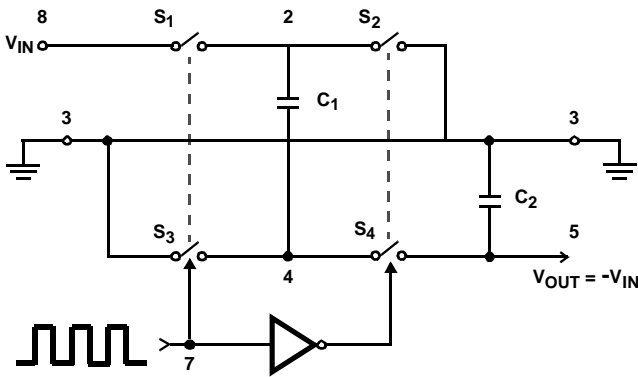
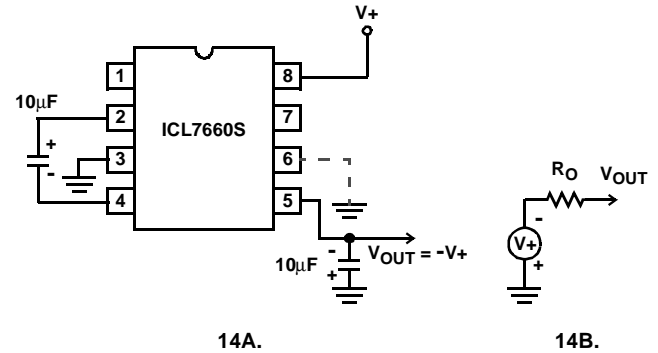
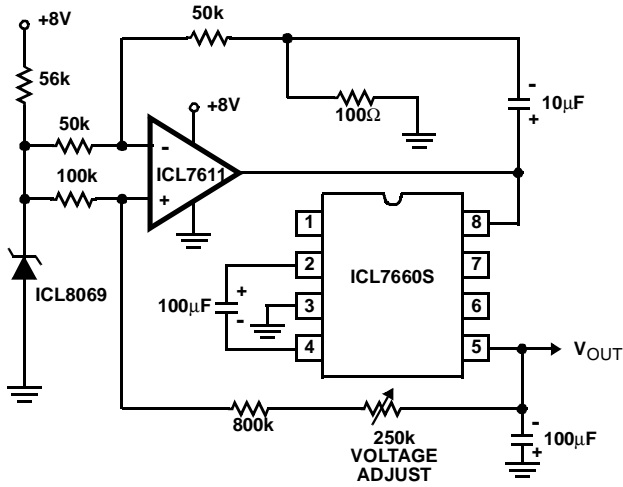
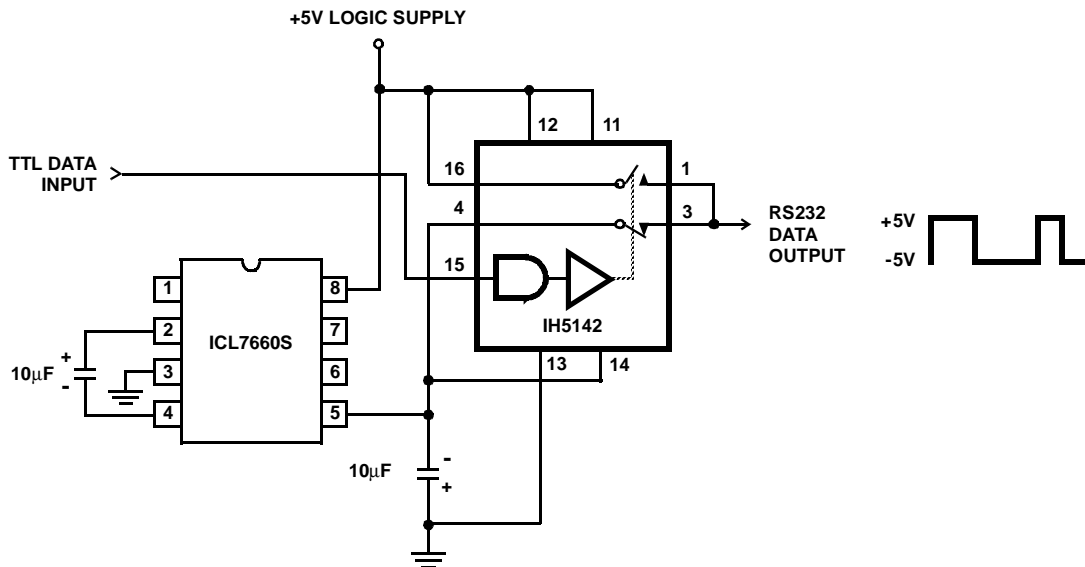

FIGURE 13. IDEALIZED NEGATIVE VOLTAGE CONVERTER
FIGURE 14. SIMPLE NEGATIVE CONVERTER AND ITS OUTPUT EQUIVALENT
FIGURE 20. REGULATING THE OUTPUT VOLTAGE
FIGURE 21. RS232 LEVELS FROM A SINGLE 5V SUPPLY
The ICL7660S contains all the necessary circuitry to complete a negative voltage converter, with the exception of 2 external capacitors which may be inexpensive 10 $\mu$ F polarized electrolytic types. The mode of operation of the device may be best understood by considering Figure 13, which shows an idealized negative voltage converter.
In the ICL7660S, the 4 switches of Figure 13 are MOS power switches;  $S_1$  is a P-Channel devices and  $S_2$ ,  $S_3$  and  $S_4$  are N-Channel devices. The main difficulty with this approach is that in integrating the switches, the substrates of
where  $V_1$  and  $V_2$  are the voltages on  $C_1$  during the pump and transfer cycles. If the impedances of  $C_1$  and  $C_2$  are relatively high at the pump frequency (refer to Figure 13) compared to the value of  $R_L$ , there will be substantial difference in the voltages  $V_1$  and  $V_2$ . Therefore it is not only desirable to make  $C_2$  as large as possible to eliminate output voltage ripple, but also to employ a correspondingly large value for  $C_1$  in order to achieve maximum efficiency of operation.
The majority of applications will undoubtedly utilize the ICL7660S for generation of negative supply voltages. Figure 14 shows typical connections to provide a negative supply where a positive supply of +1.5V to +12V is available. Keep in mind that pin 6 (LV) is tied to the supply negative (GND) for supply voltage below 3.5V.
The output characteristics of the circuit in Figure 14 can be approximated by an ideal voltage source in series with a resistance as shown in Figure 14B. The voltage source has a value of  $-(V^+)$ . The output impedance ( $R_O$ ) is a function of the ON resistance of the internal MOS switches (shown in Figure 13), the switching frequency, the value of  $C_1$  and  $C_2$ , and the ESR (equivalent series resistance) of  $C_1$  and  $C_2$ . A good first order approximation for  $R_O$  is:
The ICL7660S may be employed to achieve positive voltage doubling using the circuit shown in Figure 20. In this application, the pump inverter switches of the ICL7660S are used to charge  $C_1$  to a voltage level of  $V+ - V_F$  (where  $V+$  is the supply voltage and  $V_F$  is the forward voltage on  $C_1$  plus the supply voltage ( $V+$ ) is applied through diode  $D_2$  to capacitor  $C_2$ . The voltage thus created on  $C_2$  becomes  $(2V+) - (2V_F)$  or twice the supply voltage minus the combined forward voltage drops of diodes  $D_1$  and  $D_2$ .
Figure 21 combines the functions shown in Figure 14 and Figure 20 to provide negative voltage conversion and positive voltage doubling simultaneously. This approach would be, for example, suitable for generating +9V and -5V from an existing +5V supply. In this instance capacitors  $C_1$  and  $C_3$  perform the pump and reservoir functions respectively for the generation of the negative voltage, while capacitors  $C_2$  and  $C_4$  are pump and reservoir respectively for the doubled positive voltage. There is a penalty in this configuration which combines both functions, however, in that the source impedances of the generated supplies will be somewhat higher due to the finite impedance of the common charge pump driver at pin 2 of the device.